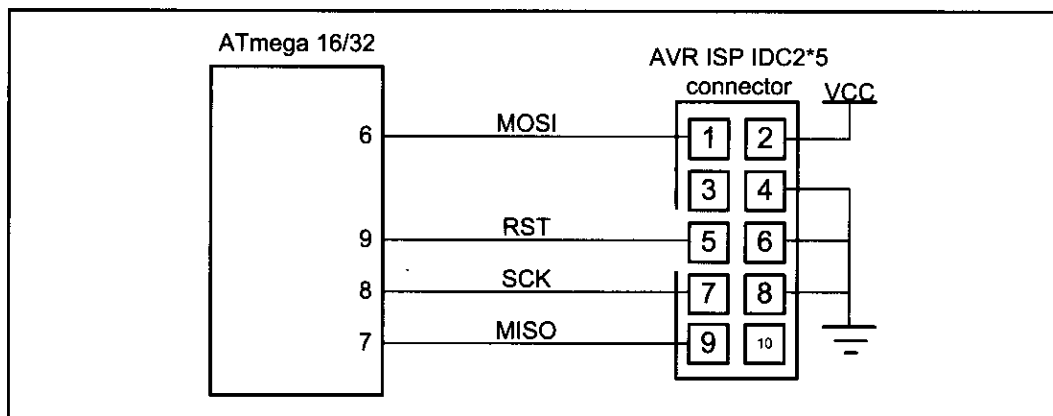

Figure 8-11. ISP 10-pin Connections (See www.Atmel.com for 6-pin version)
2. **An in-circuit serial programmer (ISP)** allows the developer to program and debug their microcontroller while it is in the system. This is done by a few wires with a system setup to accept this configuration. In-circuit serial programming is excellent for designs that change or require periodic updating. AVR has two methods of ISP. They are SPI and JTAG. Most of the ATmega family supports both methods. The SPI uses 3 pins, one for send, one for receive, and one for clock. These pins can be used as I/O after the device is programmed. The designer must make sure that these pins do not conflict with the programmer. Notice that SPI stands for "serial peripheral interface" and is a protocol. But ISP stands for "in-circuit serial programming" and is a method of code loading. AVRISP and many other devices support ISP. To connect AVRISP to your device you also need to connect VCC, GND, and RESET pins. You must bring the pins to a header on the board so that the programmer can connect to it. Figure 8-11 shows the pin connections.